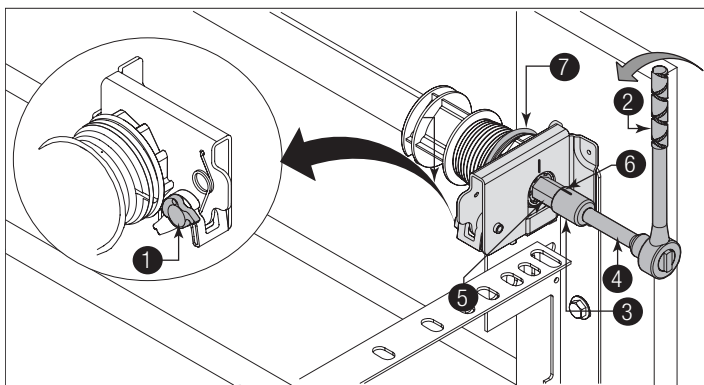
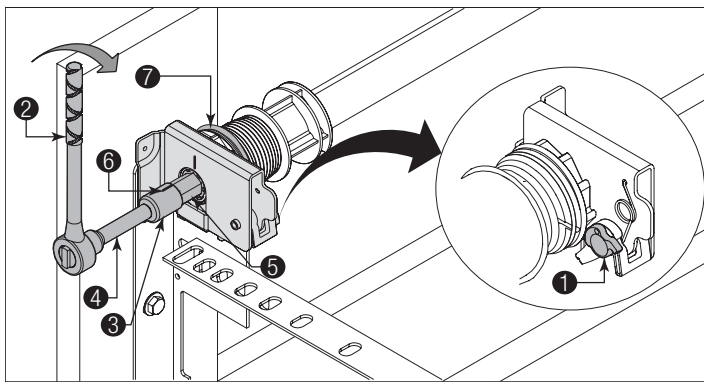

Figure 41, Right Side
Figure 42, Left Side
**See Figures 41 and 42 for the following steps.**
WHEN WINDING SPRING(S), ENSURE YOU ARE WINDING IN THE PROPER DIRECTION, AS SHOWN IN FIGURE 41 AND FIGURE 42. ENSURE THE RATCHET WRENCH WINDS THE SPRING CLOCKWISE FOR LEFT HAND SPRING. ENSURE THE RATCHET WRENCH WINDS THE SPRING COUNTERCLOCKWISE FOR RIGHT HAND SPRING.